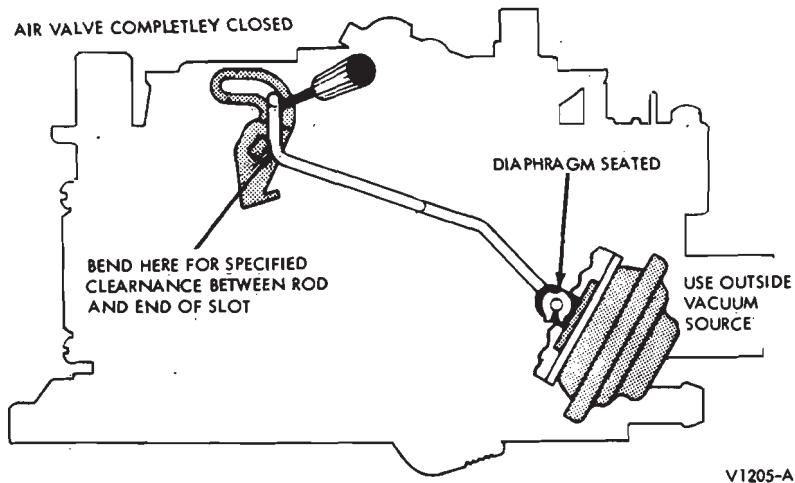

FIG. 5—Air Valve Dashpot Adjustment
1. Seat the vacuum break diaphragm, using an outside vacuum source (Fig. 5).